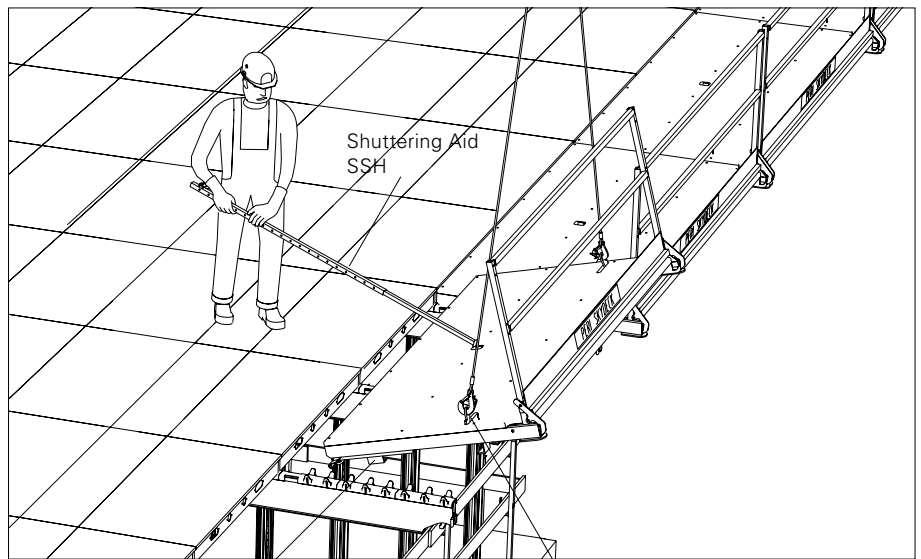

Fig. A9.12
1. With the help of the Shuttering Aid SSH, access the recess of the platform decking and pull the platform out from its safe position. (Fig. A9.12)